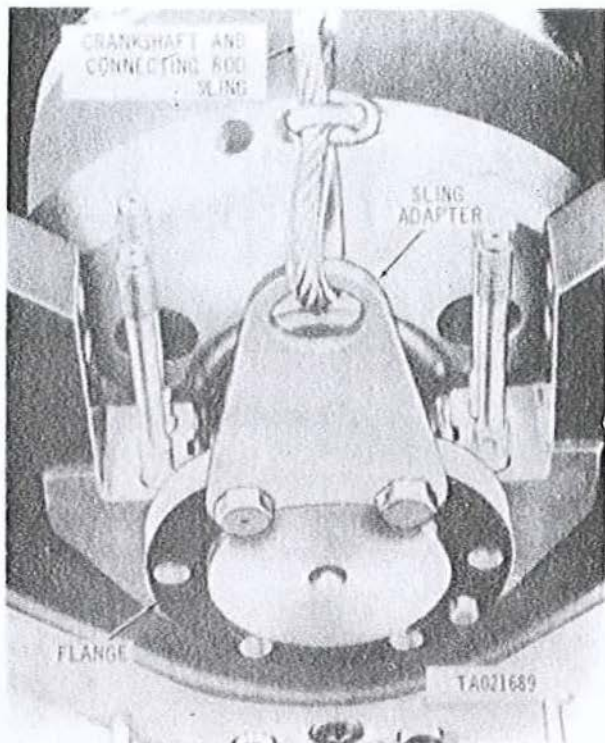

Figure 3-133. Installing or removing crankshaft and connecting rod sling at crankshaft torsional vibration damper flange.
- h. Install the sling adapter (fig. 3-133) to torsional vibration damper flange crankshaft and secure with two vibration damper mounting bolts.